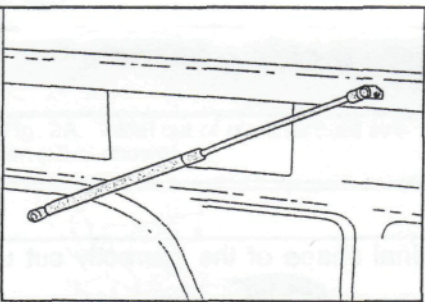

Fig. 4
4. Attach small shaft end of gas strut onto gas strut brackets, by clicking them in place. Refer to Fig. 4 with regard to strut orientation.